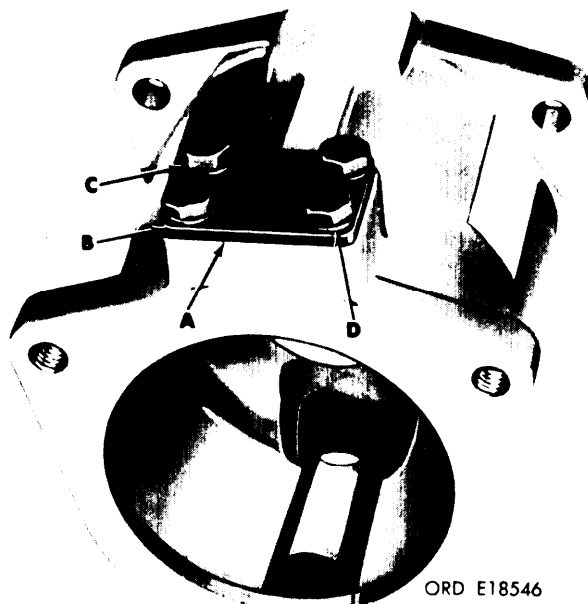

Figure 3-127. Installing timing cover.
(3) Refer to figure 3-127. Install timing cover gasket (A) and timing cover (B). Secure cover with four machine screws (C) and lockwashers (D).